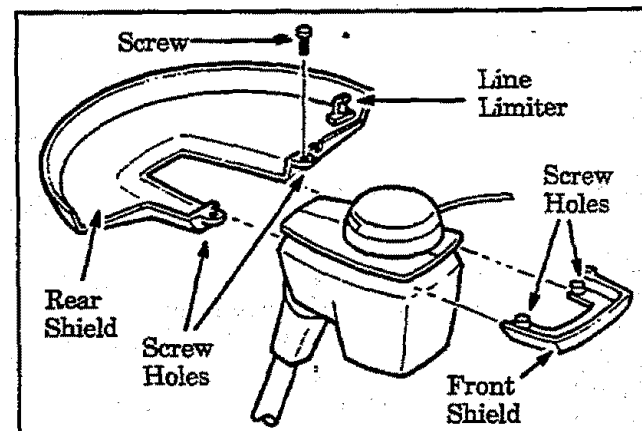

Figure 3
Failure to install the shield in the position shown in Figure 3 can result in serious injury to the operator. Carefully follow assembly instructions when attaching the shield to the unit. Figure 3.
1. Slide the rear shield and the front shield into the grooves on the trimmer housing. Figure 3.
2. Align the screw holes in the rear shield with the screw holes in the front shield. Figure 3.